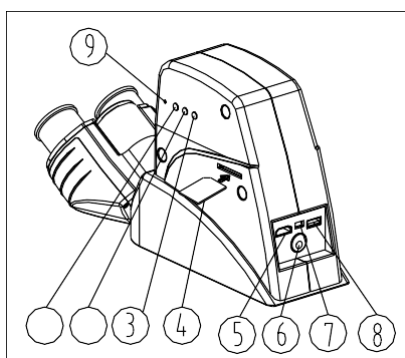

Fig. 25
1) Press and hold for 3-5 seconds on the switch button①. The indicator ⑨ turns from orange to green to indicate that the power on is completed. (See Fig. 25)